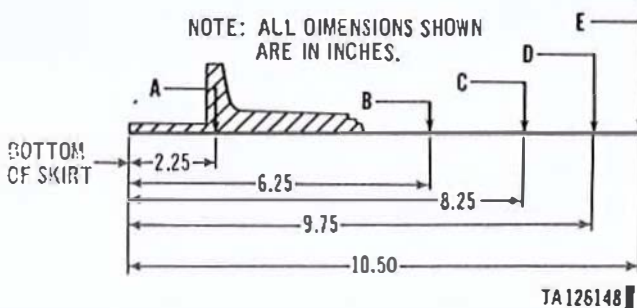

Figure 3-193. Cylinder bore dimensions.
(1) Cylinder bores may taper slightly at the head end (at room temperature). The tapered section expands and is essentially straight at operating temperature.
(2) With cylinder at room temperature, take two cylinder bore measurements at point A through E, repair standards (table 3-13) and fig. 3-193. Measure diameter approximately parallel to line of valves, and then take measurement 90 degrees to first measurement. Average the measurements.